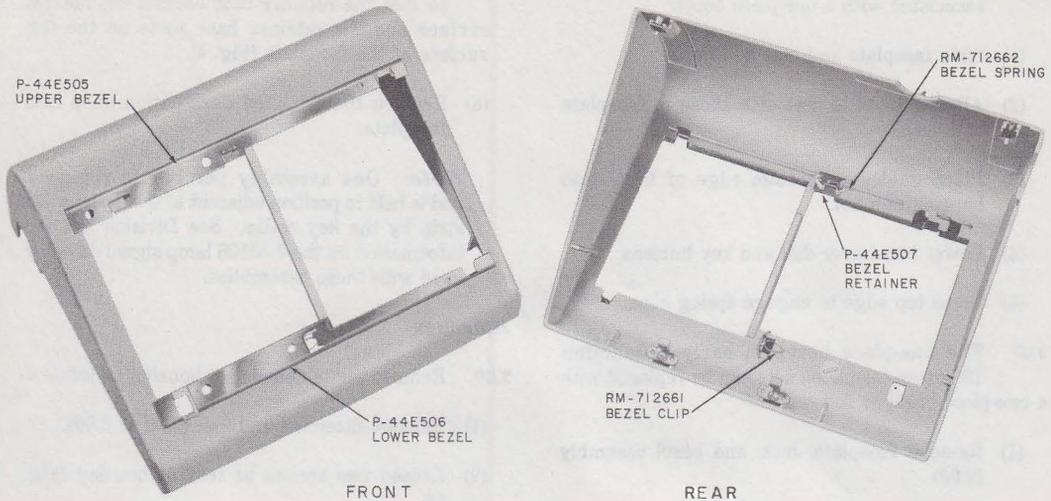

Fig. 3—Housing With Two-Piece Bezel Assembly Installed
- (1) Remove faceplate, mat, and bezel assembly (2.05).
- (2) Remove housing (2.09).
- (3) Install lower bezel (P-44E506).
- (4) Secure with RM-712661 bezel clip (Fig. 3).
- (5) Place upper bezel (P-44E505) on housing.
- (6) Turn housing over and place (P-44E507) retainer on tab of bezel (Fig. 3).
- (7) Place RM-712662 bezel spring over retainer (Fig. 3).